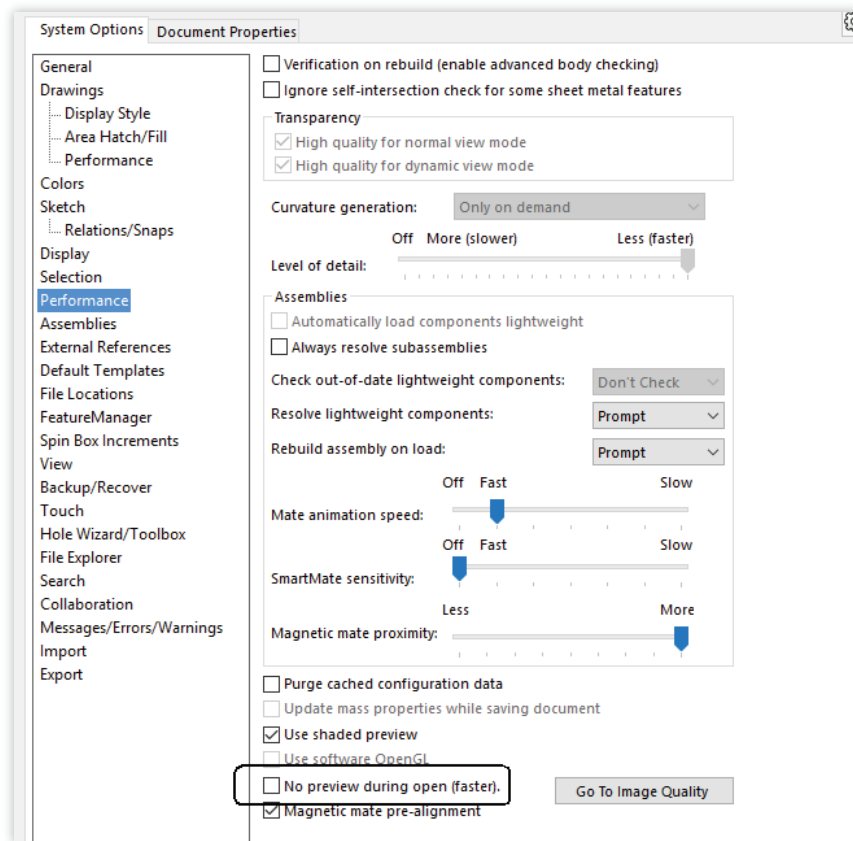

Fig. 27
4. On the **Performance** page, uncheck **No preview during open (faster)**. This ensures your assemblies will open faster. See Fig. 27.